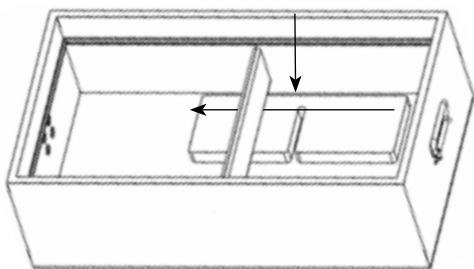

Figure 24
3. Flip over the sitting box and place the foam spacer on the bottom with the adhesive paper facing up. Slide this under the wood rib in the middle. See Figure 24.